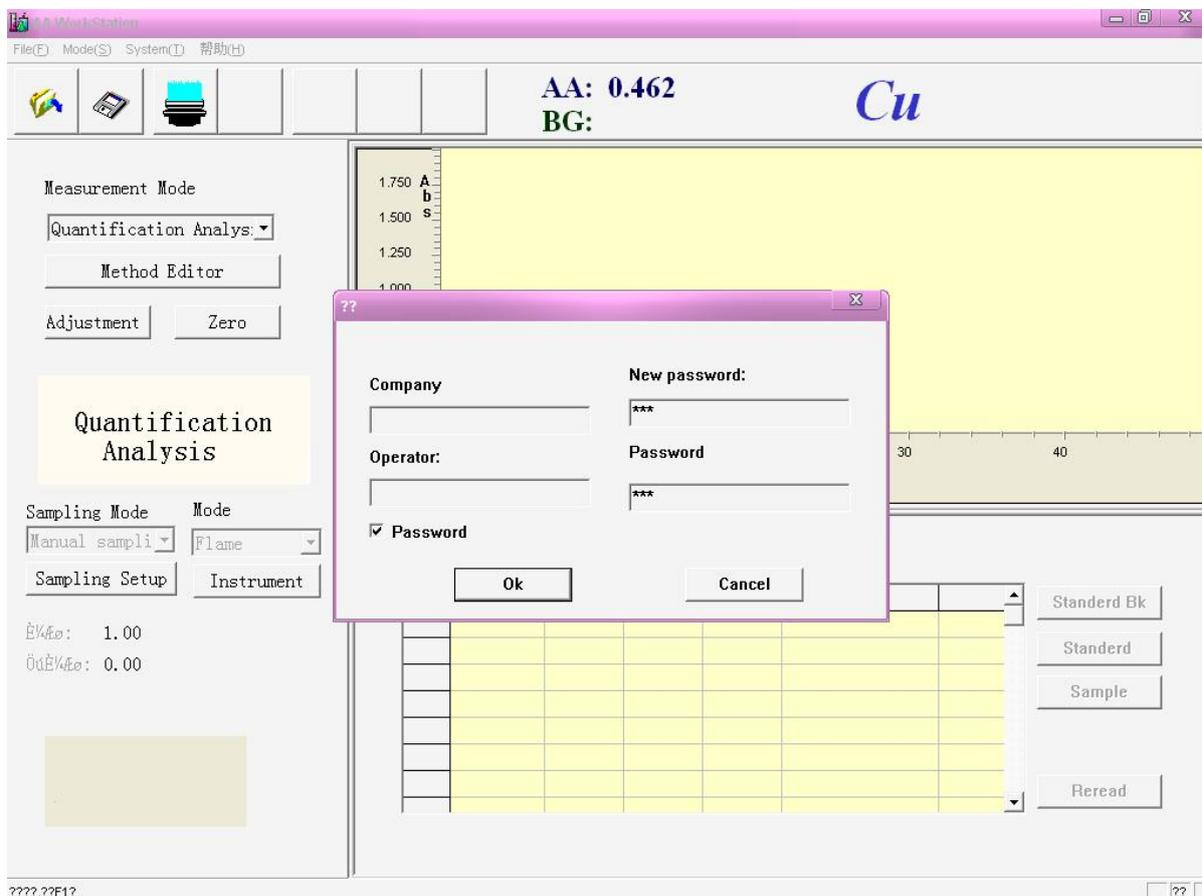

Figure 4-9
- b. Select the " password" dialog box, enter a password, and enter again to confirm. Figure 4-9.